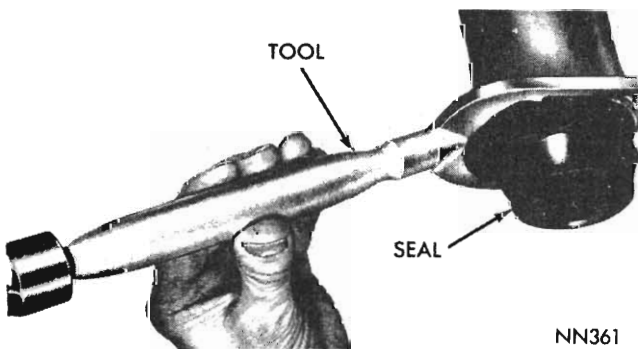

Fig. 12 - Removing extension housing yoke seal
(2) Remove the extension housing yoke seal (Fig. 12) with Tool E21C50D.